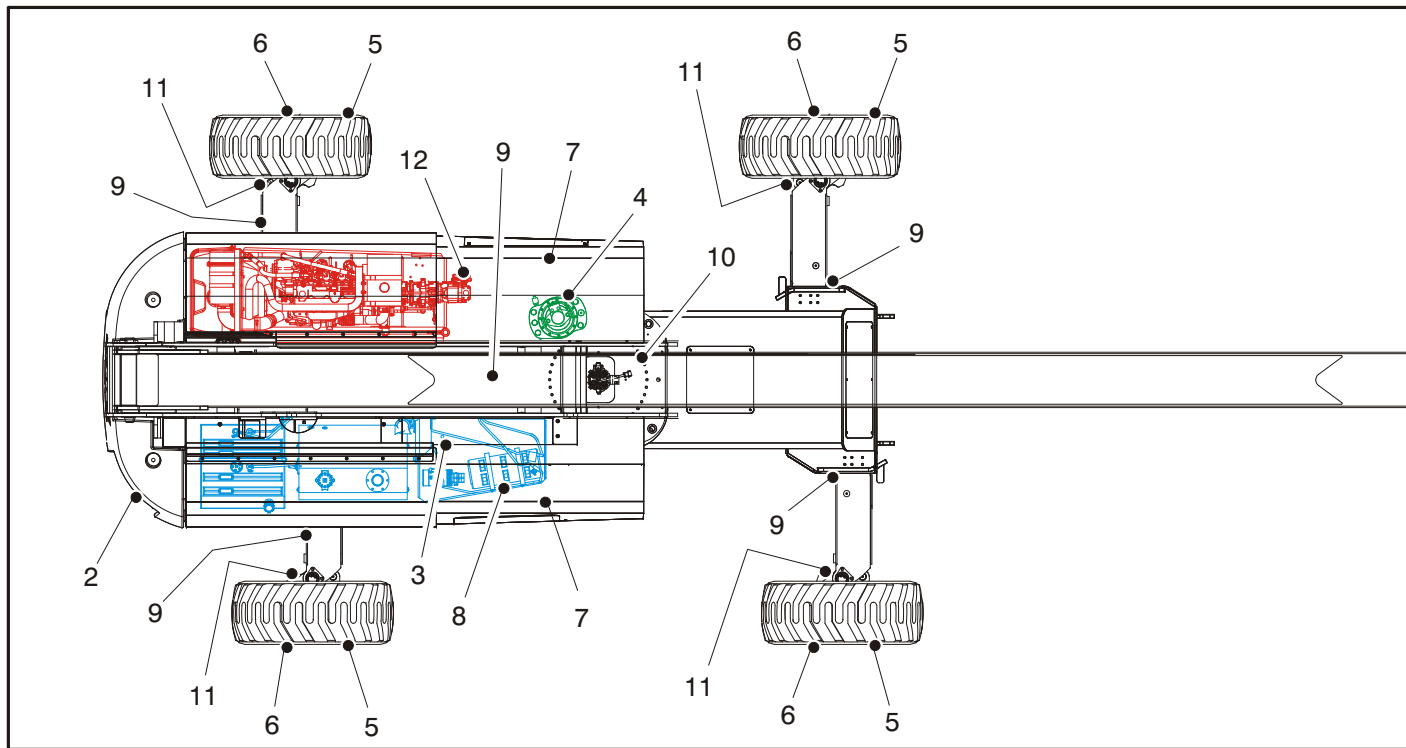

Figure 2-4. Daily Walk-Around Inspection - Sheet 1 of 4
5. **“Walk-Around” Inspection** – Refer to Figure 2-4.